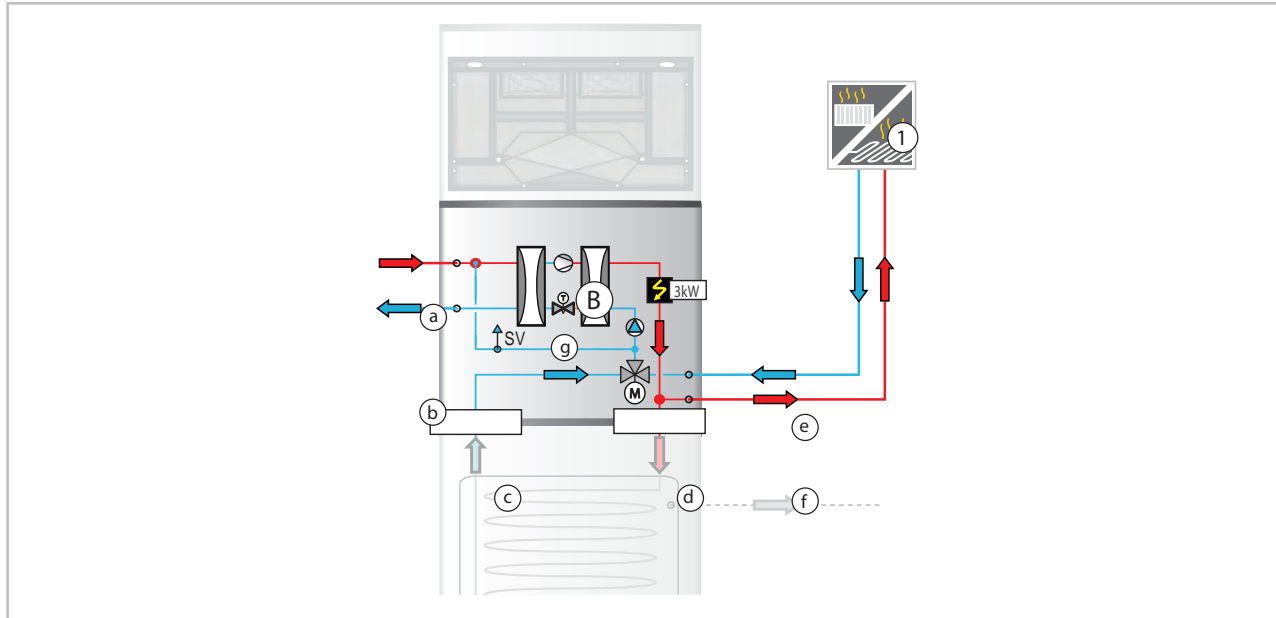

Fig. 3: Heat pump module
- The second (middle) component [B] is the MWP 35 heat pump module, which is equipped with a water-to-water heat pump. The MWP draws the thermal energy from a central and constantly tempered source storage tank, which is installed in the basement of the apartment building, for example. This source storage tank works as a heat source for all heat pump modules and is heated/charged with a source heat generator (appropriately dimensioned depending on the number of residential units). The heat pump module (Fig. 3) regulates the temperature of the domestic hot water storage module of the apartment to a constant temperature level and thus provides the hot water for the taps of the respective residential unit in a decentralised manner. The heating system is fed directly.